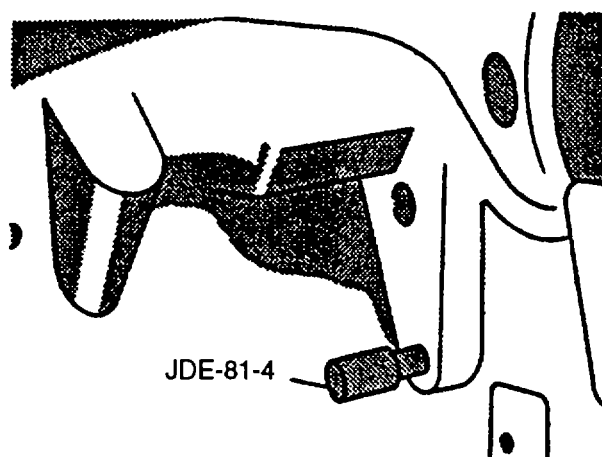
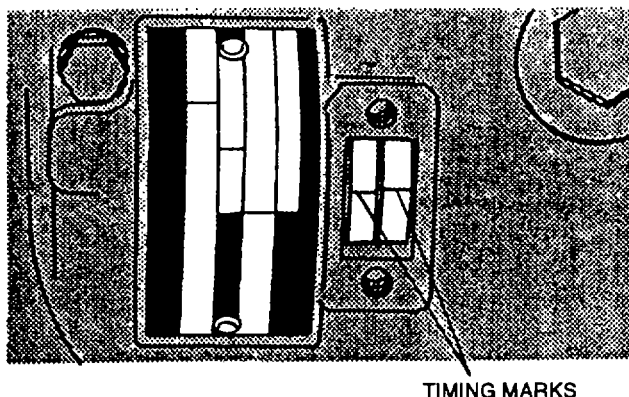

FIGURE 3-60. Flywheel Locking Tool
FIGURE 3-61. Checking Timing Marks
- h. Remove capscrew from left side of flywheel housing to gain access to timing hole in flywheel, refer to FIGURE 3-60.
- i. Remove timing hole cover plate (shown removed) from side of fuel injection pump housing, refer to FIGURE 3-61.
If timing marks are as illustrated in FIGURE 3-61, insert timing tool (JDE-81-4) into flywheel, refer to FIGURE 3-60.
- k. Check alignment of governor weight retainer and cam ring timing marks, refer to FIGURE 3-61.